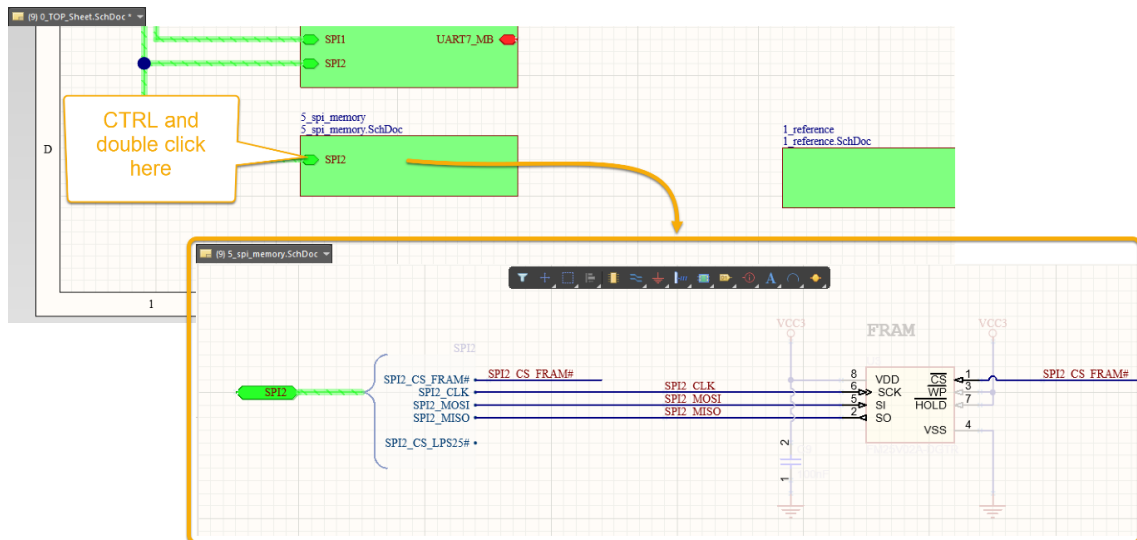

Figure 3. Navigating net connectivity between schematics
- To jump to the signals in the SPI2 harness, press and hold the **CTRL** key and double click on the sheet entry as shown in Figure 3.